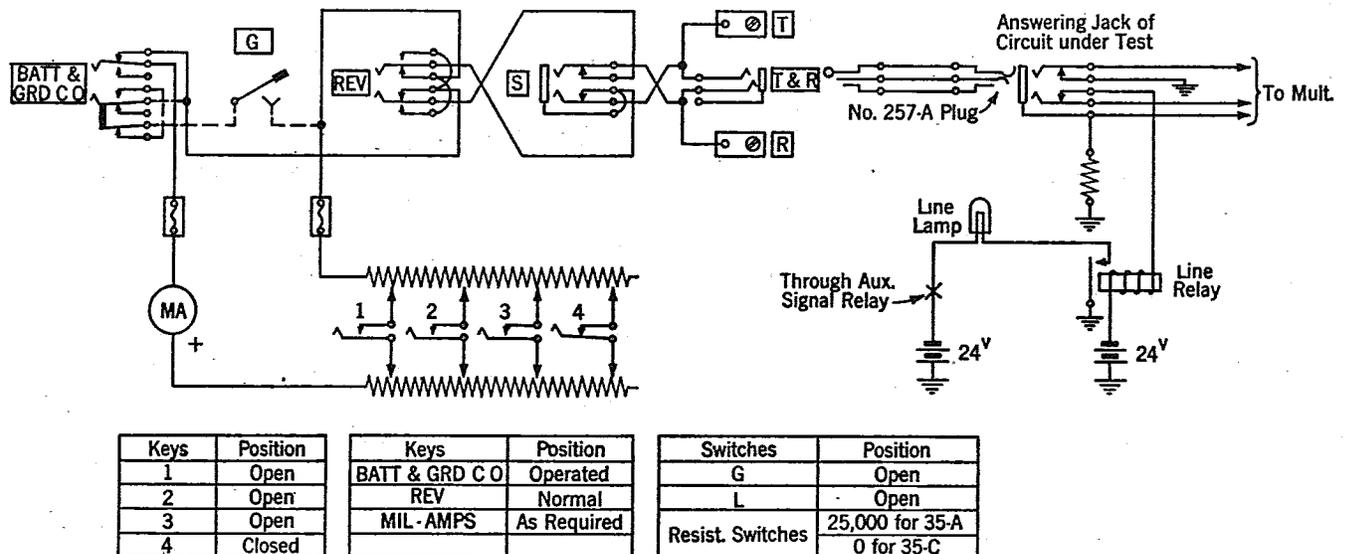

Fig. 1
- 3.03 Arrange the test set keys and switches as shown in Fig. 1.